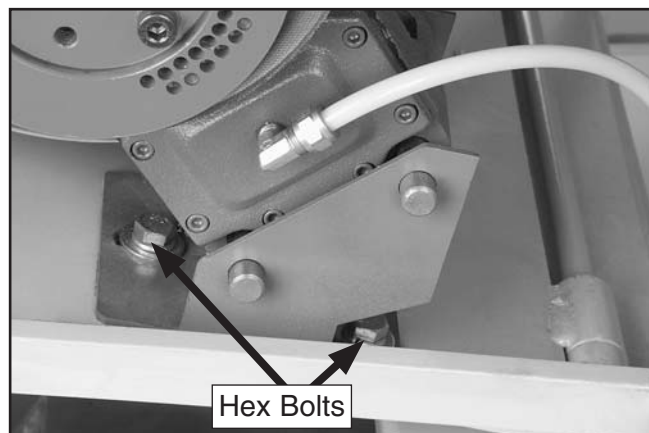

Figure 72. Nuts securing caliper.
- Loosen and remove the two hex bolts and washers that secure the caliper assembly (**Figure 72**), then move it out of the way.